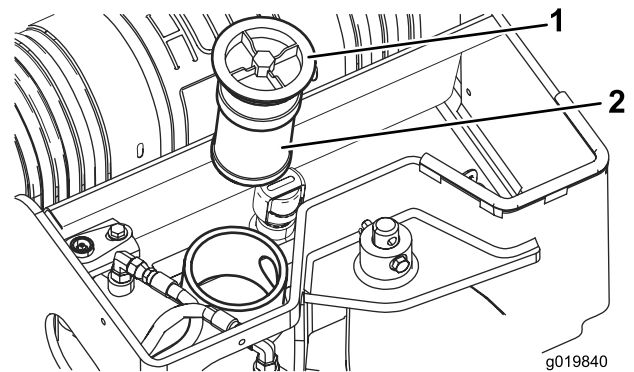

Figure 60
5. Remove and discard the old filter (Figure 60).
6. Install the replacement hydraulic filter and filler cap (Figure 60) and torque bolt on top to 21 to 25 N-m (200 to 240 inch-lb).
6. Remove the hydraulic tank filler cap and filter (Figure 60).
11. Install the hydraulic filter and filler cap (Figure 60) and torque bolt on top to 21 to 25 N-m (200 to 240 inch-lb).